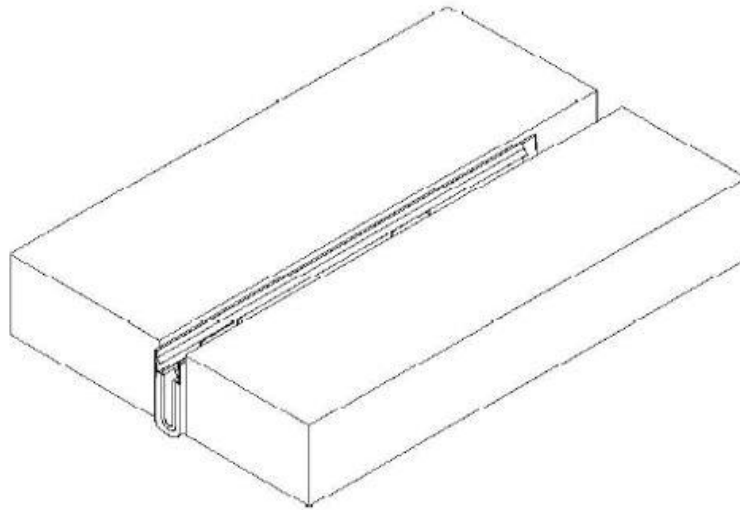

Figure 3
3. With the male end at the starting point of the installation; insert barrier into expansion joint. If starting at an exterior wall, ensure the male end of the stick covers the total wall depth. TIP: If joint width is smaller than the specified nominal joint width, compress the sides of the blanket evenly using a wood form and clamps. This will allow the EJN-FLF140 blanket to regain its “pill shape”. Reference detail of joint condition to ensure fire barrier is installed at a depth that does not conflict with any part of the expansion joint system above. **See Figure 3.**